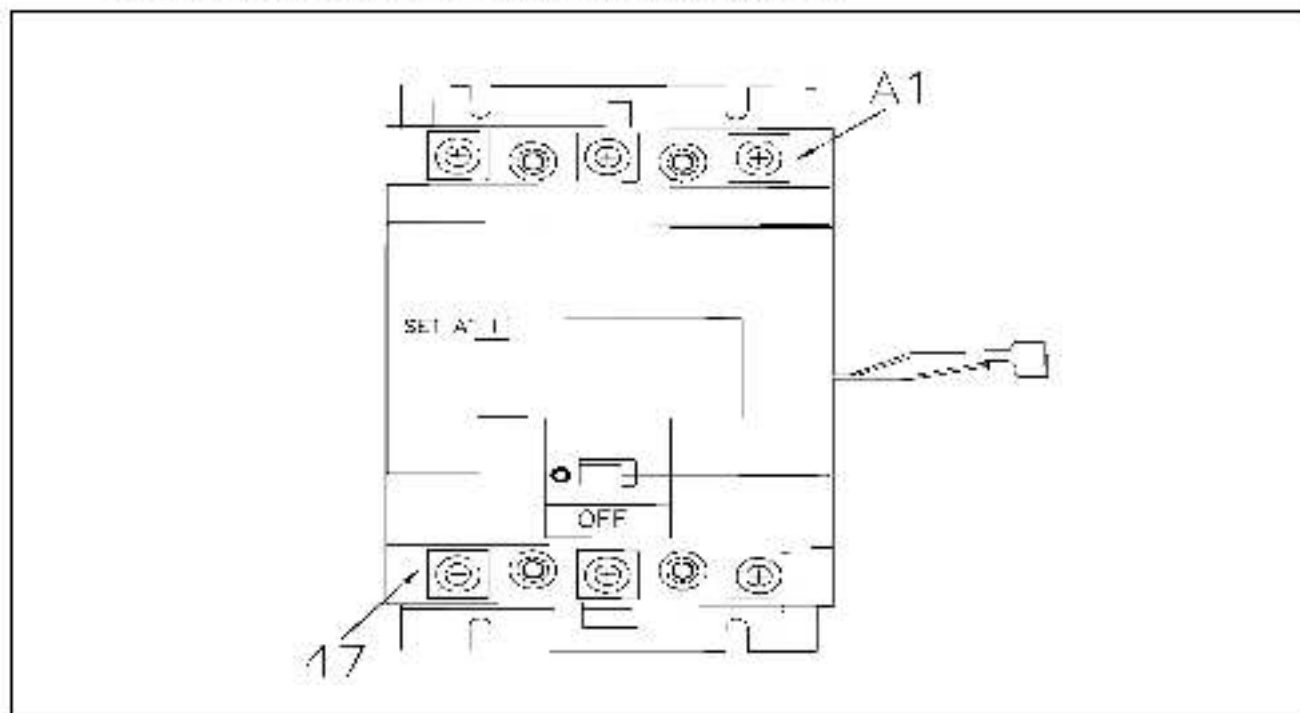
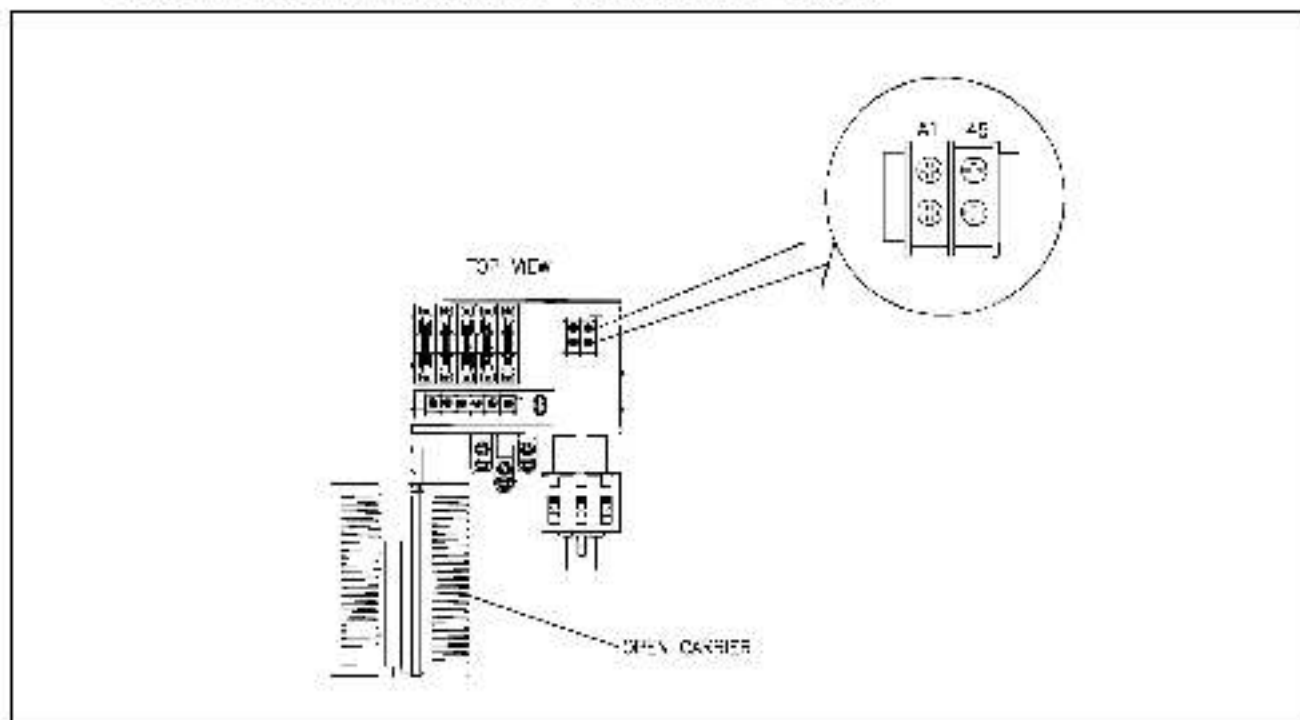

Figure 2 – Inverting Fault Circuit Breaker Terminal Locations
Figure 3 – Drive Motor Terminal Block
Step 1. Connect the motor armature lead marked A1 to the Inverting Fault Circuit Breaker terminal A1. See Figure 2 for the location of terminal A1 on the circuit breaker.
Step 2. Connect the wire from the inverting fault circuit breaker terminal marked 17 (see Figure 2 for location) to the drive motor terminal marked A1 (see Figure 3 for location).
- Step 3. Connect the motor armature lead marked A2 to the drive motor terminal block (see Figure 3 for location). If the motor has a series field, connect motor lead A2 to motor lead S1, and connect the motor lead S2 to the drive motor terminal block marked 45.